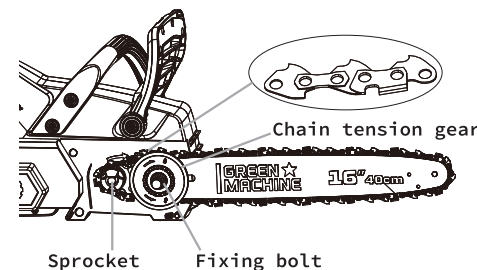

Fig. 14A
3. Connect the chain tension gear with the guide bar into the fixing bolt of the housing, and place the saw chain around the sprocket with the cutting teeth correspond to the direction of the symbol on the housing (Fig.14A) .
4. Rotate the chain tension gear clockwise until it stops and the tension is tight on the chain (Fig.14A) .